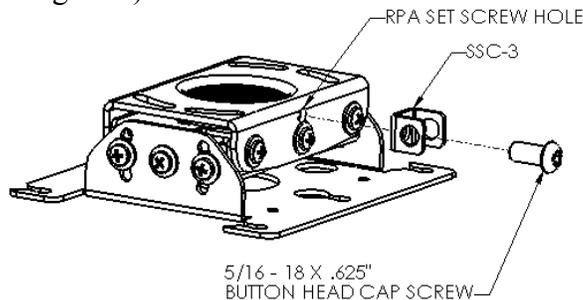

Figure 3.
2. Replace the 5/16" set screw of the RPA projector mount with the supplied 5/16" Button Head Cap Screw and an SSC-3 (see Figure 3).